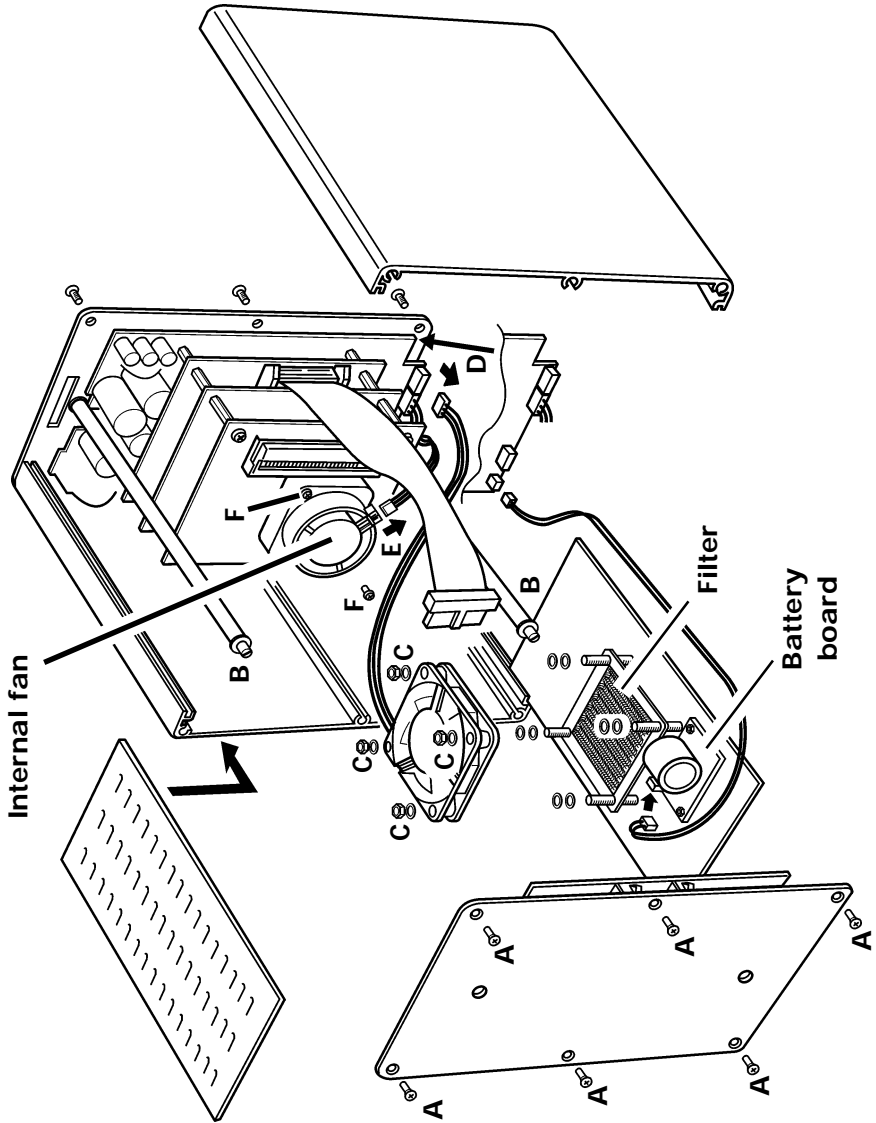

Figure 9.2 Processor module - part explosion
Figure 9.2 is a partial exploded view of the processor unit. The drawing shows one side plate removed, for clarity, but this is not always necessary for the procedures below.
2. Lay the module on one side, and slide the lower panel (containing the external fan) out, disconnecting the fan connector ('D' in figure 9.2 above) as it becomes accessible.